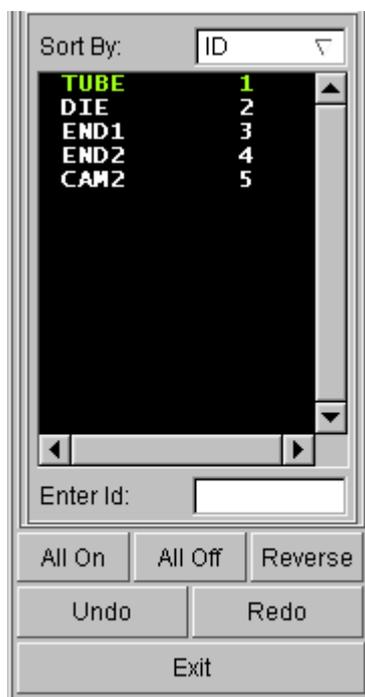

Figure 3.50 Part turn on/off dialog box
- In Part Operation dialog, use your mouse cursor to click on all the parts, excluding BLANK, as illustrated in Figure 3.50. All the tools are hidden from the display area. Then, click **Exit** button to dismiss the dialog box.